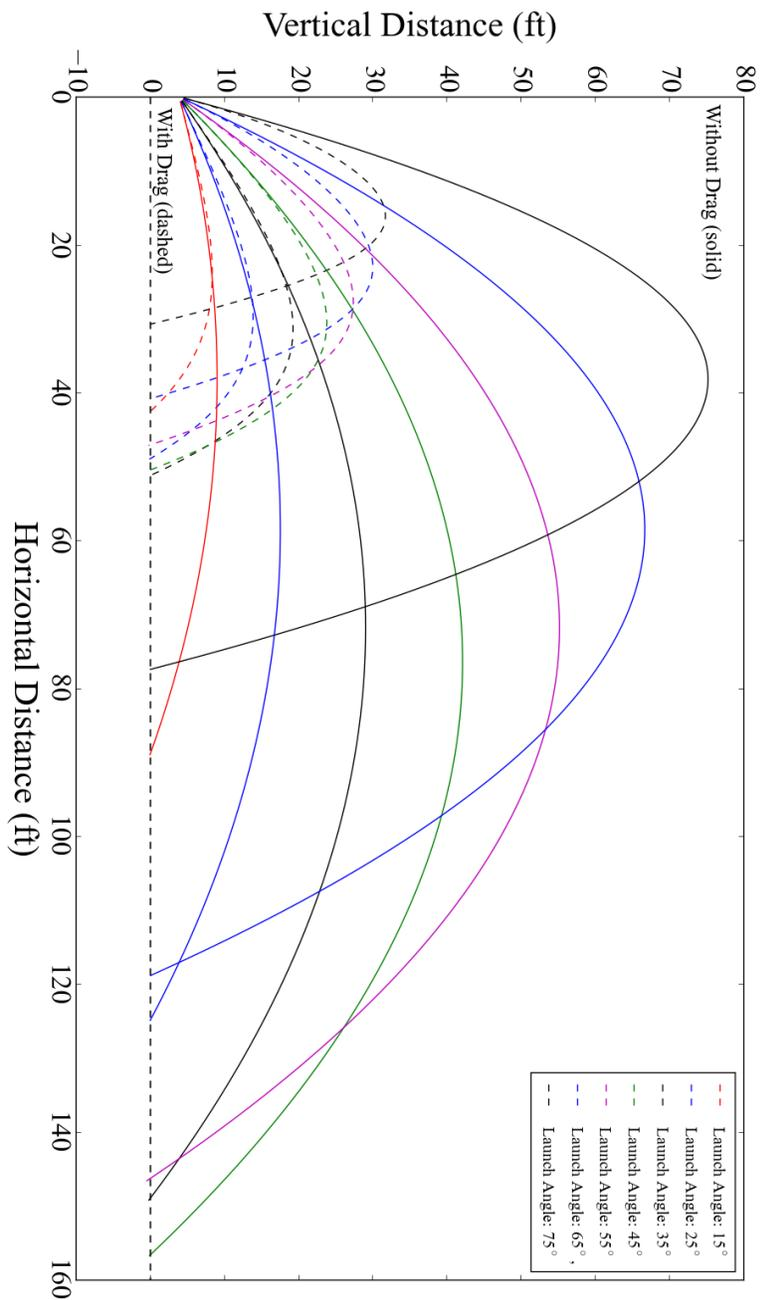

Figure 5: Tennis ball trajectory comparison for with and without drag
11. Figures 5 and 6 have been provided in this document to aid in the design process. Of note is the different projectile behavior when accounting for the drag. Plots were produced using a Python code based program to determine the projectile motion of the tennis ball. Code and usage instructions are available at the CMSE website.